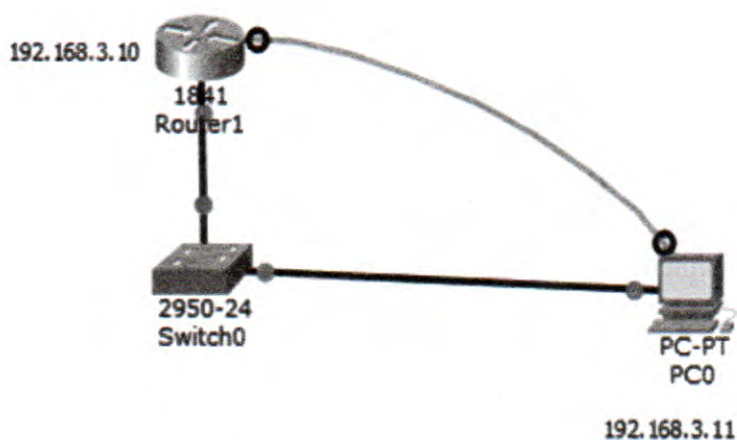

Fig 4.5: Topology for basic router configuration
1. Connect the topology shown in Figure 4.5.